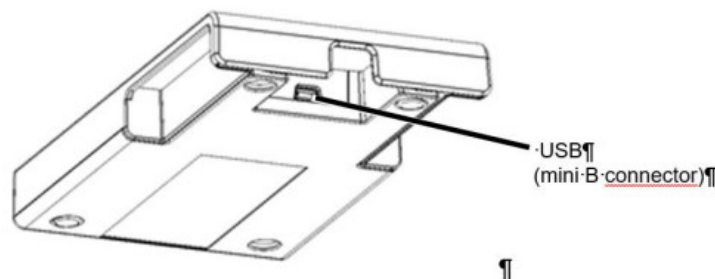

Fig.1 USB Type mini B Interface
- The connection with a PC and the power supply takes place through the USB connector via a USB cable with a mini B connector. Cable length: max. 2,5 m (see Fig. 1).